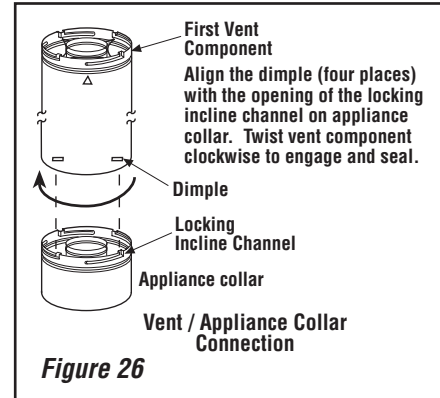

Figure 26
A. Frame ceiling opening - Use a plumb line from the ceiling above the appliance to locate center of the vertical run. Cut and/or frame an opening, 10-1/2" x 10-1/2" (267mm x 267mm) inside dimensions, about this center mark (**Figure 26**).
B. Attach vent components to appliance - Secure Vent® SV4.5 Direct-Vent system components are unitized concentric pipe components featuring positive twist lock connections (see Figures 26 and 27).
To attach a vent component to the appliance collar, align the dimpled end over the collar, adjusting the radial alignment until the four locking dimples are aligned with the inlet of the four inclined channels on the collar (refer to **Figure 26**). Push the vent component against the collar until it fully engages, then twist the component clockwise, running the dimples down and along the incline channels until they seat at the end of the channels. The unitized design of the **Secure Vent** components will engage and seal both the inner and outer pipe without the need for sealant or screws. If desired a #6 x 1/2" screw may be used at the joint, but it is not required as the pipe will securely lock when twisted.